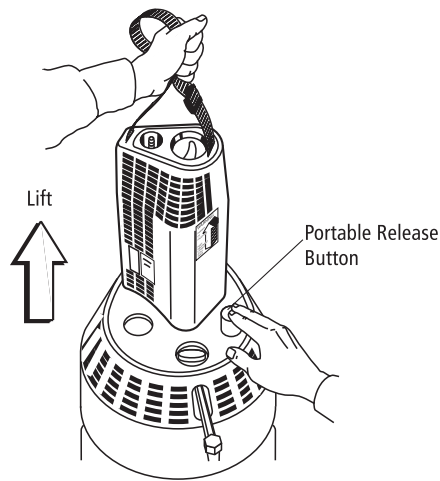

Figure 1-10: Disengaging Companion 1000/T
If the vent valve fails to close and the hissing continues, remove the Companion 1000/T by pressing the release button on the Stationary (Figure 1-10). Keep the Companion 1000/T in an upright position. The unit will stop venting in a few minutes. Allow the unit to warm until you can close the vent valve. It may require as much as two to three hours with the flow control off for the Companion 1000/T to restore adequate pressure for accurate oxygen delivery.
9. Disengage the Companion 1000/T from the Stationary by holding the carrying strap above the unit and pressing the release button (Figure 1-10). Always hold the Companion 1000/T with one hand when attempting to disengage it. Should the units not disengage easily, they may be frozen together. Do not use force. Allow a few moments for the frozen parts to warm. Disengage the units after the ice has melted.